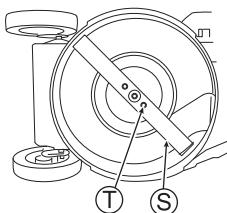

Fig. 34
- 2 If Blade (S) or its mounting bolts (T) are "worn", "broken" or "deformed", exchange with new one(s) specified by us.
- 3 Confirm that Blade mounting bolts (T) are tightened by the specified torque. (See Fig. 34)
- 2 Fully tighten Blade mounting bolts (T) with hand.
- 4 Confirm that Blade mounting bolts (T) are tightened by the specified torque. (See Fig. 34)